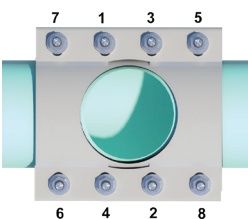
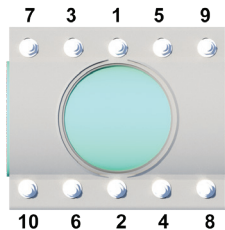

Figure 5
Figure 6
C.8) Using a torque wrench, tighten nuts in proper pattern. Tightening patterns are shown in Figure 5 and Figure 6. Repeat tightening pattern in no more than 25 ft. lb. increments until recommended torque is reached. **NOTE:** 8" fitting has 10 total bolts (see Figure 6 for 8" bolt torque sequence).